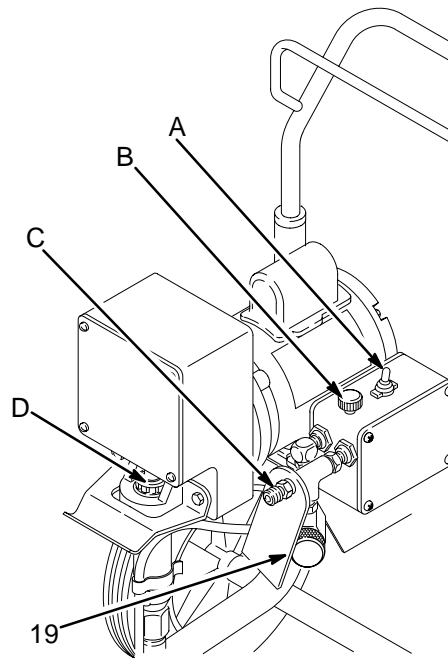

Fig. 1
- a. Close the drain valve (19). Don't install the spray tip yet! See Fig. 1.
- c. Turn the pressure adjusting knob (B) all the way counterclockwise to lower the pressure setting.